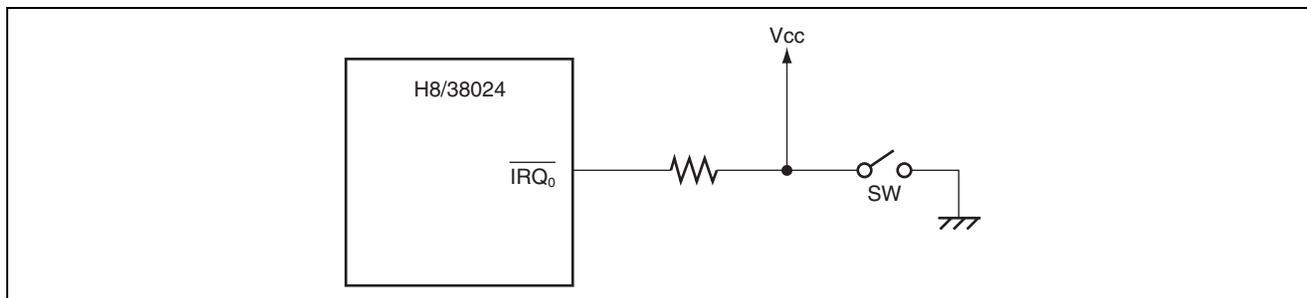

Figure 1.1 Example of Connecting a Switch to $\overline{\text{IRQ0}}$ Input Pin
6. Figure 1.1 shows an example of connecting a switch to the $\overline{\text{IRQ0}}$ input pin.